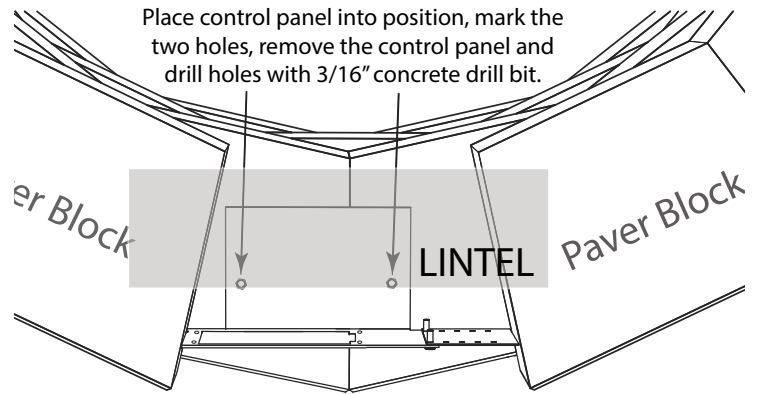

Fig. 4 Top view of control panel securing into the paver block.
STEP 3: After you have determined the location and measured the width to install the Paver Control Panel mark the inside of the control panel as shown in Fig. 4.
Use the lintel to support the paver above control panel. The lintel simply lays on top of the paver as shown in Fig. 4.